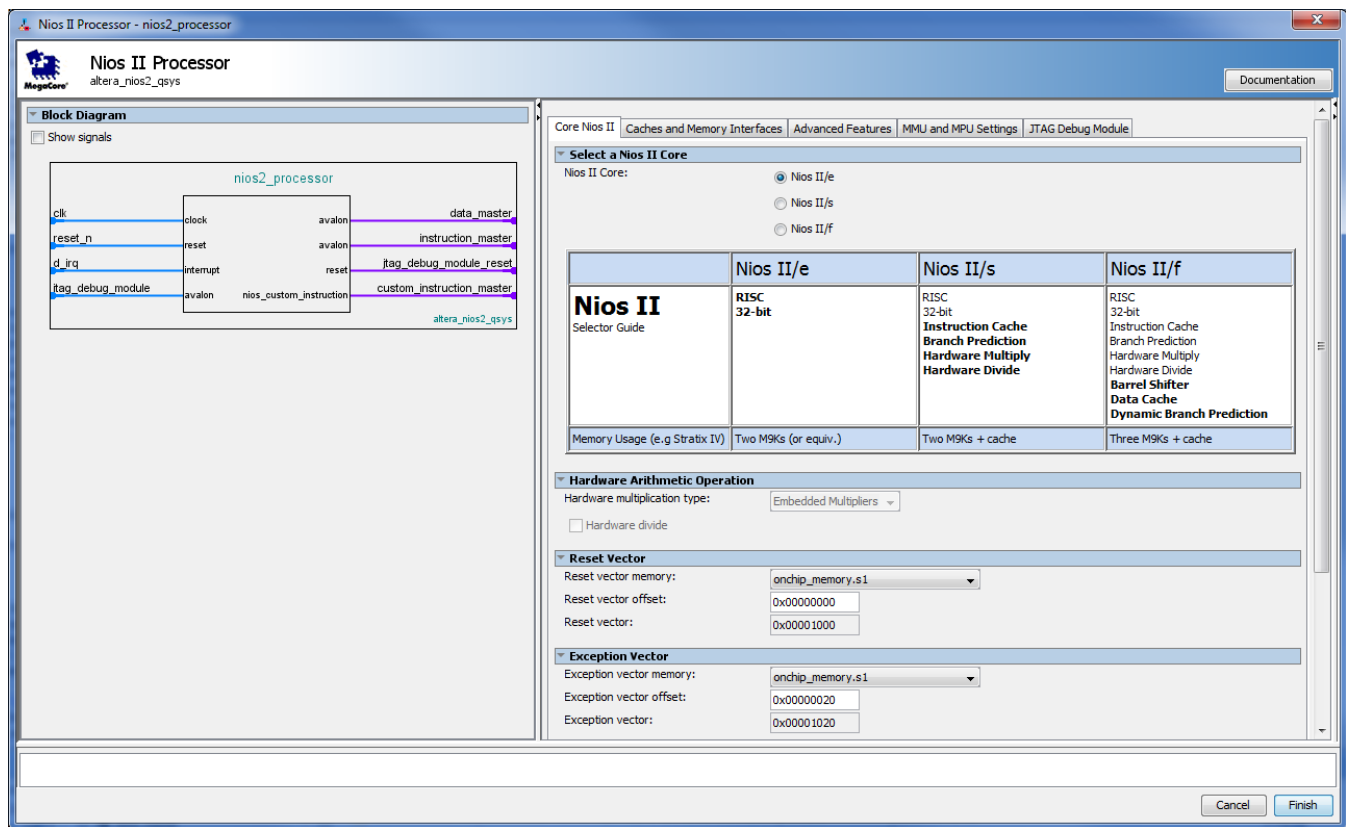

Figure 18. Define the reset and exception vectors.
- Right-click on the *nios2\_processor* component in the window displayed in Figure 17, and then select Edit to reach the window in Figure 18
- Select *onchip\_memory.s1* to be the memory device for both reset and exception vectors, as shown in Figure 18